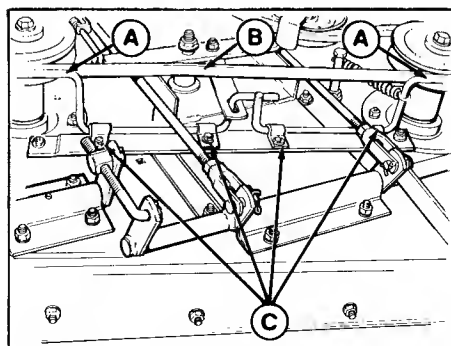

Figure 37.
Inspect the mower deck with the mower attached and PTO rod released. The blade brake rods (A, figure 37) should firmly contact the belt (B) at the rear of the right and left arbor pulleys. There should be a shaft clearance between the two brake rods in the center.